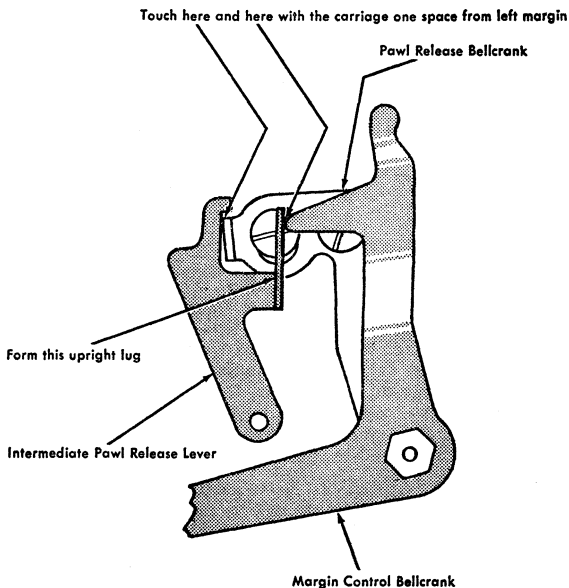

Figure 44. Intermediate Pawl Release Lever Adjustment
8. INTERMEDIATE PAWL RELEASE LEVER UPRIGHT LUG. Form this to allow the intermediate pawl release lever to touch the margin control bellcrank and pawl release bellcrank when the carriage is one space from the left margin (Figure 44).